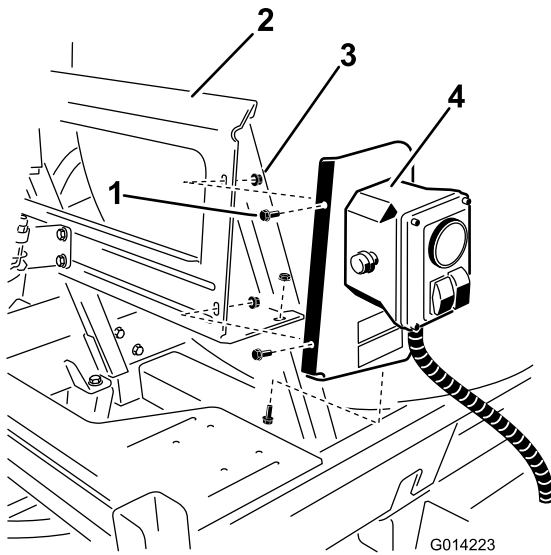

Figure 8
2. Install the assembly to the mount bracket using 3 bolts (1/4 x 5/8 inch) and 3 locknuts (1/4 inch) as shown in Figure 8.